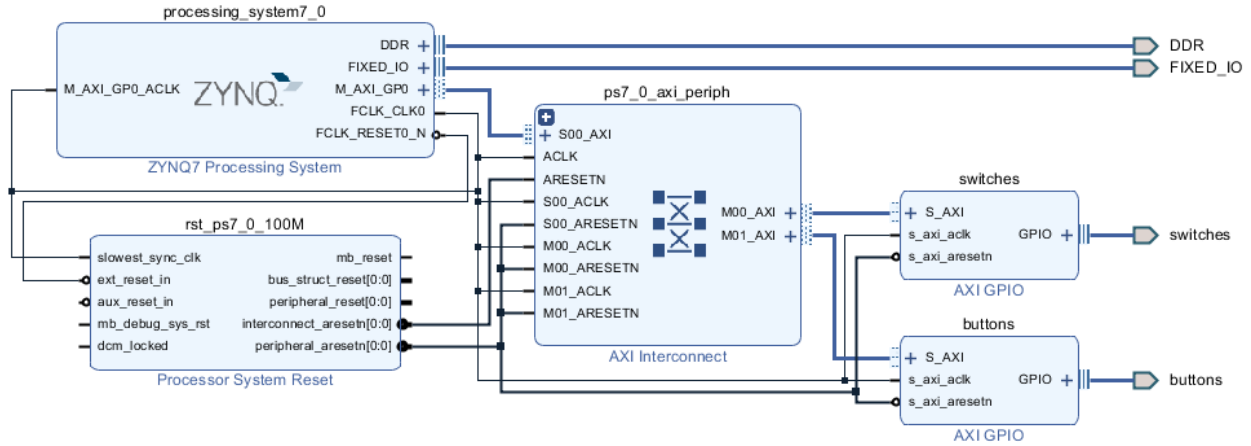

Figure 2: HDL Top Level Design.
Figure 2 shows the HDL top level based of the ZYNQ 7 Processing system which is connected with an AXI bus S00_AXI to a intellectual property (IP) block that manages peripherals. From there an AXI bus is used to connect two general purpose input output (GPIO) IP blocks, one for buttons and another one for switches. Furthermore, a Processor System Reset IP block is used that interconnects all resets.